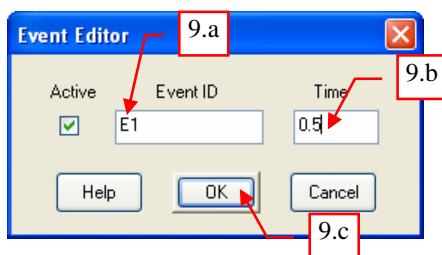

Fig. 5
9. On the “Event Editor” dialog box shown in Fig. 5, do the following: